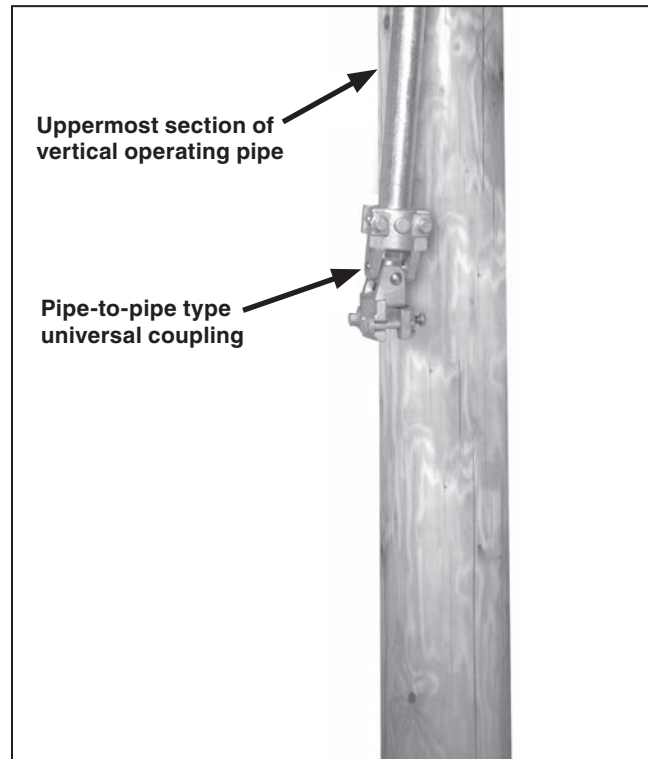

Figure 17. Attach the pipe-to-pipe type universal coupling to the lower end of vertical operating pipe.
STEP 12. Attach a pipe-to-pipe type universal coupling to the lower end of the uppermost section of vertical operating pipe. See Figure 17. Back the piercing set screws out of the coupling so the tip does not protrude into the body of the coupling.